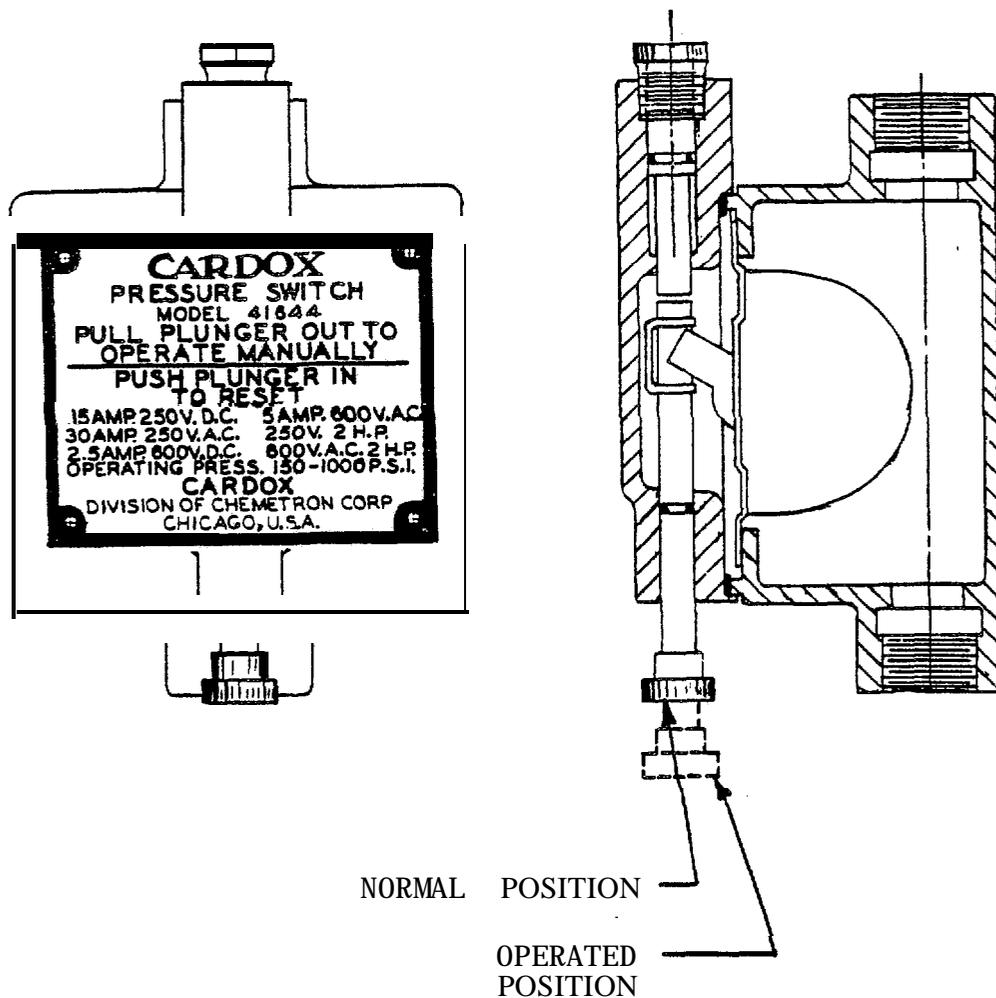

Figure 8. Pressure Switch 45CP.
4. Pull the operating pin on the 45CP pressure switch (Figure 8). This action will close the electrical circuit; or as an alternate, short circuit one of the tire detectors